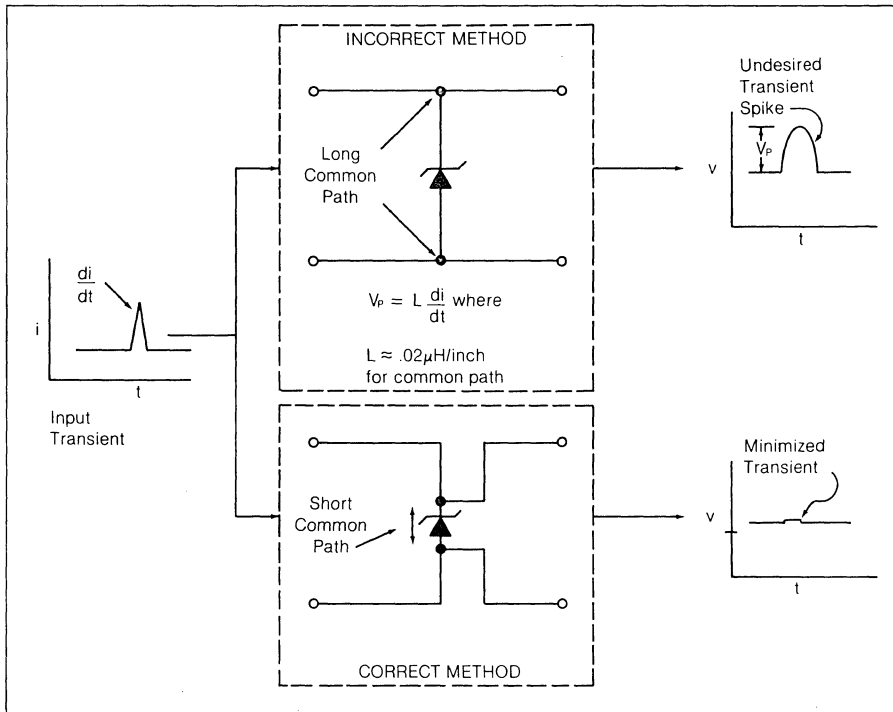

Figure 5 — Minimizing the Common Path
2. Minimize the "common path" through the TVS to minimize voltage spikes produced by fast risetime transients in lead and wiring stray inductance. See Figure 5.